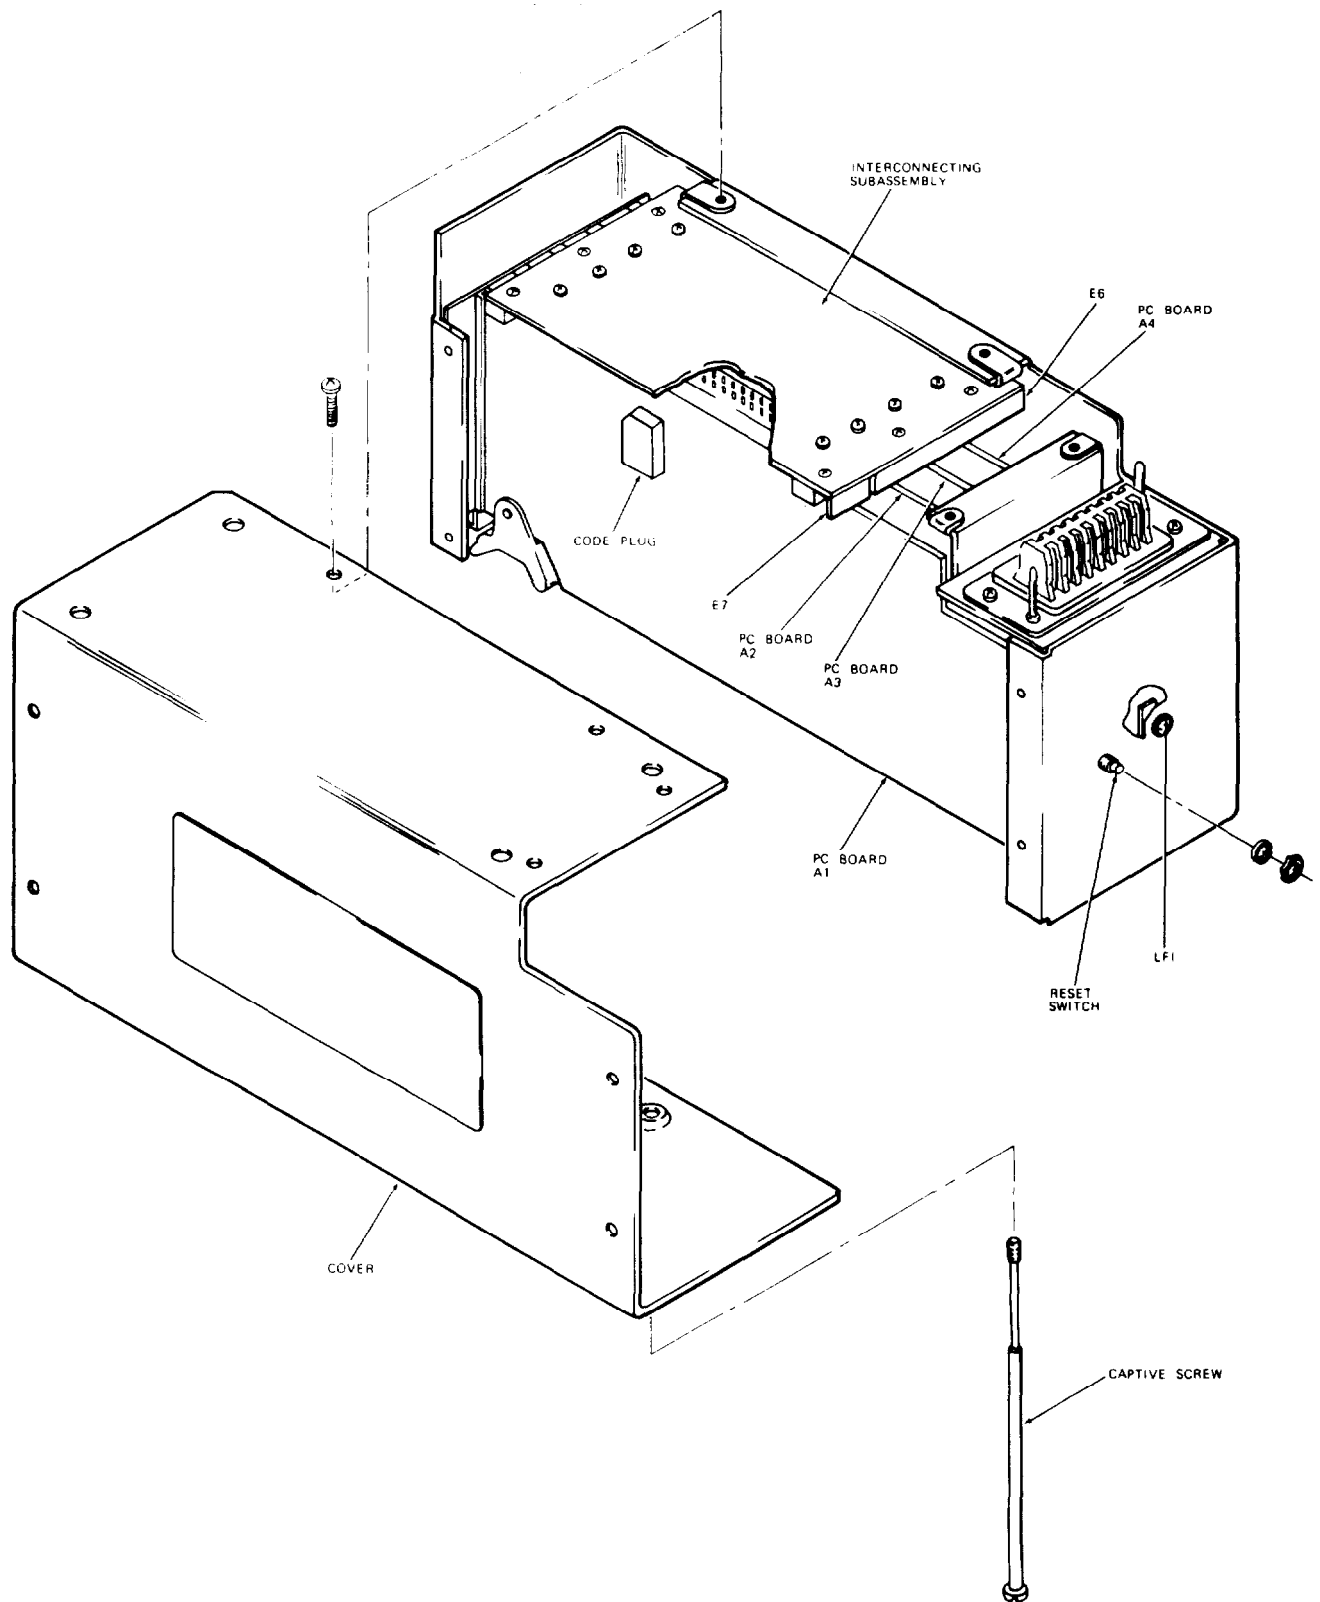

Figure 5-1. Data Receiver
- (6) Inspect all metal surfaces intended to be painted for condition of finish and legibility of panel lettering.
- f. Refer to figures 5-1, 5-2, and 5-3 for all test points referred to in table 5-1. Step-by-step troubleshooting procedures, including Trouble, Probable Cause, and Corrective Action, are listed in table 5-1.